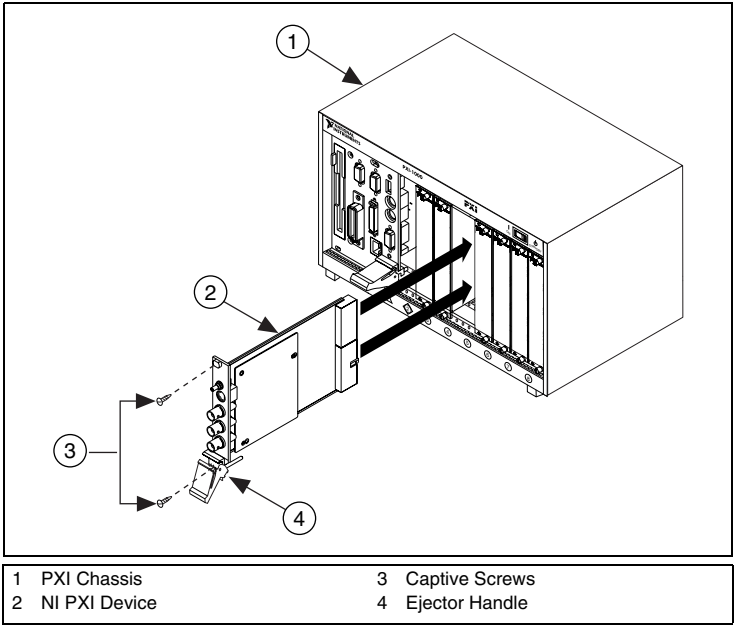

Figure 1. PXI Installation
5. Holding the PXI module by the ejector handle, slide it into an empty slot. Make sure that the base engages with the guides in the chassis as shown in Figure 1.